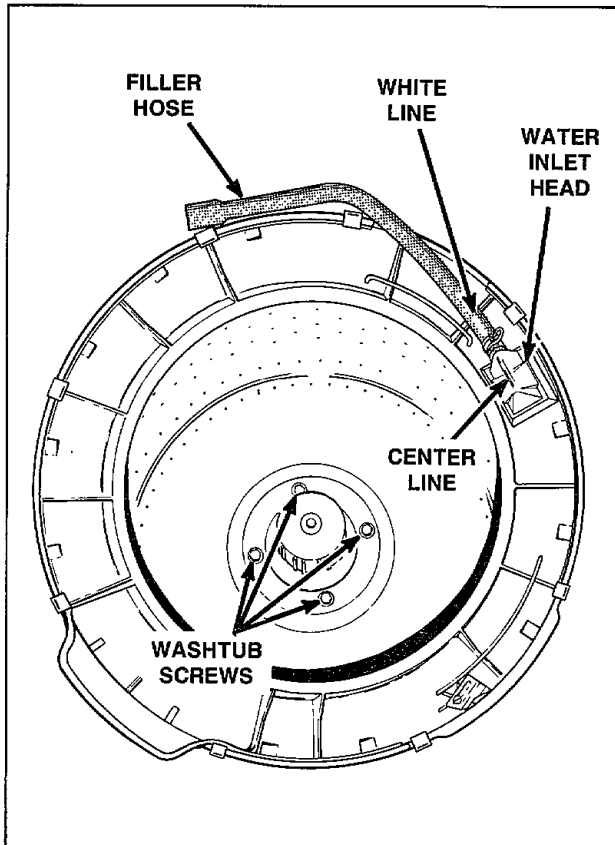

Figure 31
1. Disconnect water inlet hose from outer tub cover, *Figure 31.*
NOTE: When reinstalling filler hose, white line on hose must be aligned with center line of water inlet head, *Figure 31.*
3. Remove four screws and washers holding washtub to hub, *Figure 31.*
- Remove the four screws holding washtub to hub, *Figure 31*, then lift washtub out of outer tub.